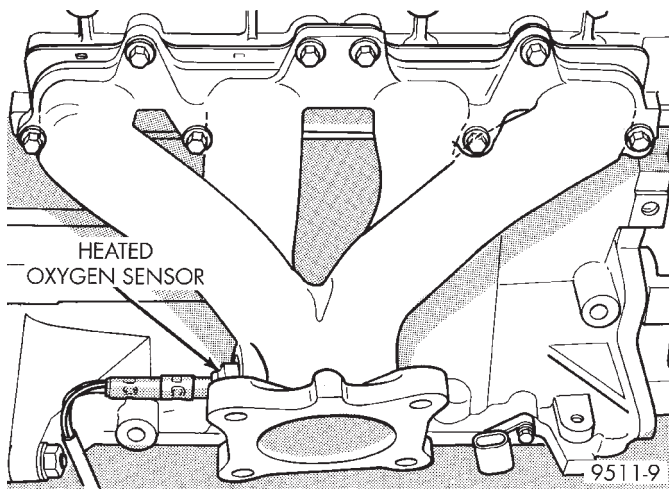

Fig. 29 Exhaust Manifold
(3) Remove 8 exhaust manifold retaining fasteners and remove exhaust manifold (Fig. 29).